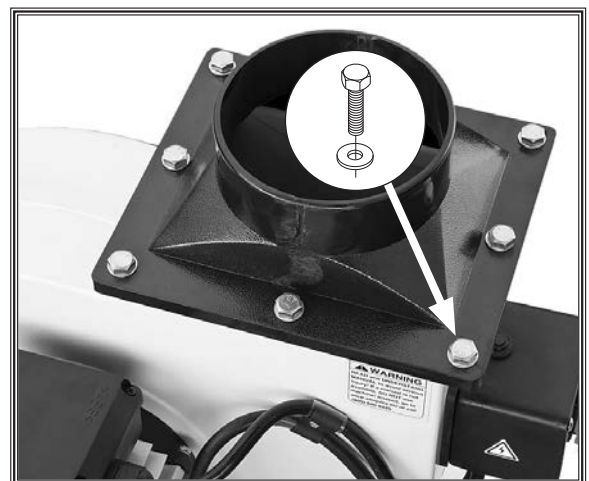

Figure 9. Outlet flange attached.
- Model W1666:** Place outlet flange on top of gasket and secure it with (8) M8-1.25 x 16 hex bolts and (8) 8mm flat washers (see Figure 9).